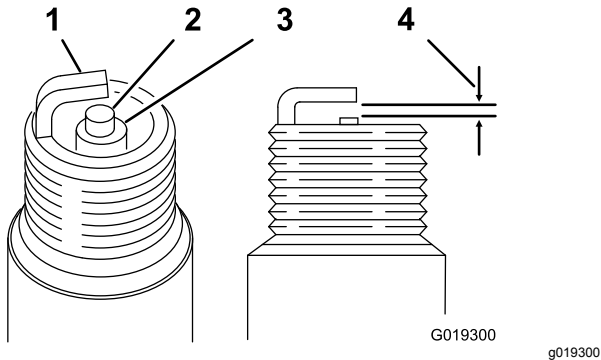

Figure 44
- For each spark plug, set the gap between the center electrode and the side electrode to 0.76 mm (0.030 inch); refer to Figure 44. Install each of the correctly gapped spark plugs with a gasket seal, and tighten the plugs to 22 N·m (16 ft-lb).